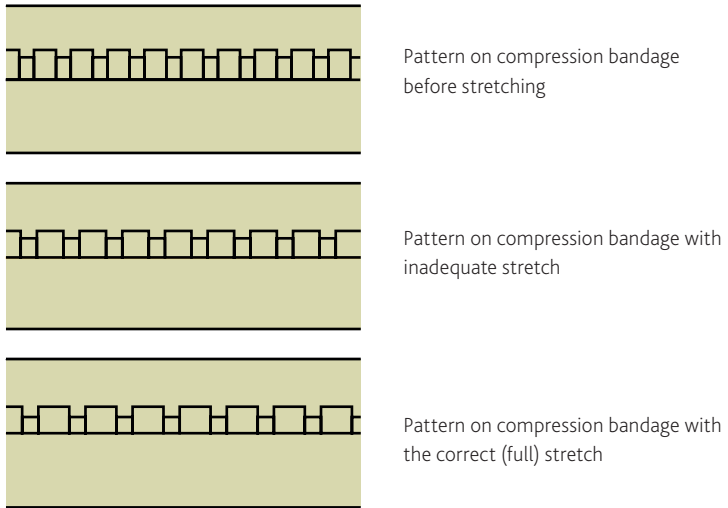

Figure 7: Comparison of compression bandage tightness
- Use a minimum of two bandage layers at full stretch (no elasticity remaining in the bandage). When the bandage is at its maximum tightness, the small rectangular tension markers will stretch to become square in shape. See *Figure 7* below.